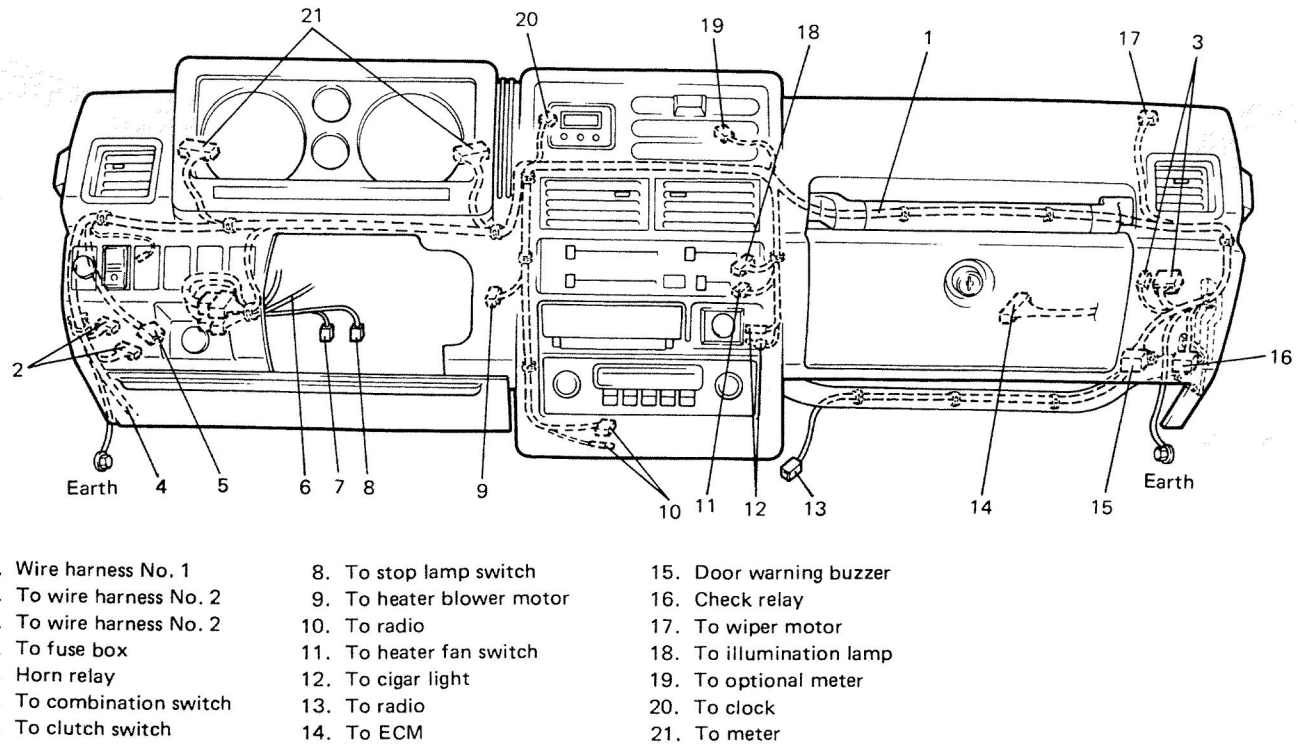

Fig. 21-40
- 6.4. Disconnect the ECM (see Fig 21-40, #14). Remove the computer & bracket together. Separate them and save the bracket (set the old computer aside – you might be able to sell it later).
- 6.5. Locate & disconnect the white 1-pin connector on the heavy WHT/YEL wire and the white 6-pin connector (with YEL/BLK, BLK/YEL & BLK/WHT wires), located between right side of glove box & inside of fender (see fig 21-40, #3). Locate & disconnect the 2 rectangular connectors (1 natural, 1 blue) under the dash, on the driver's side, above the fuse block (see fig 21-40, #2). This separates wire harness No. 1 from wire harness No. 2.
Note: 1986 through 1988 Samurais with the "round vent dash" have an 8-pin connector instead of a 6-pin (Fig: 21-40 #3).